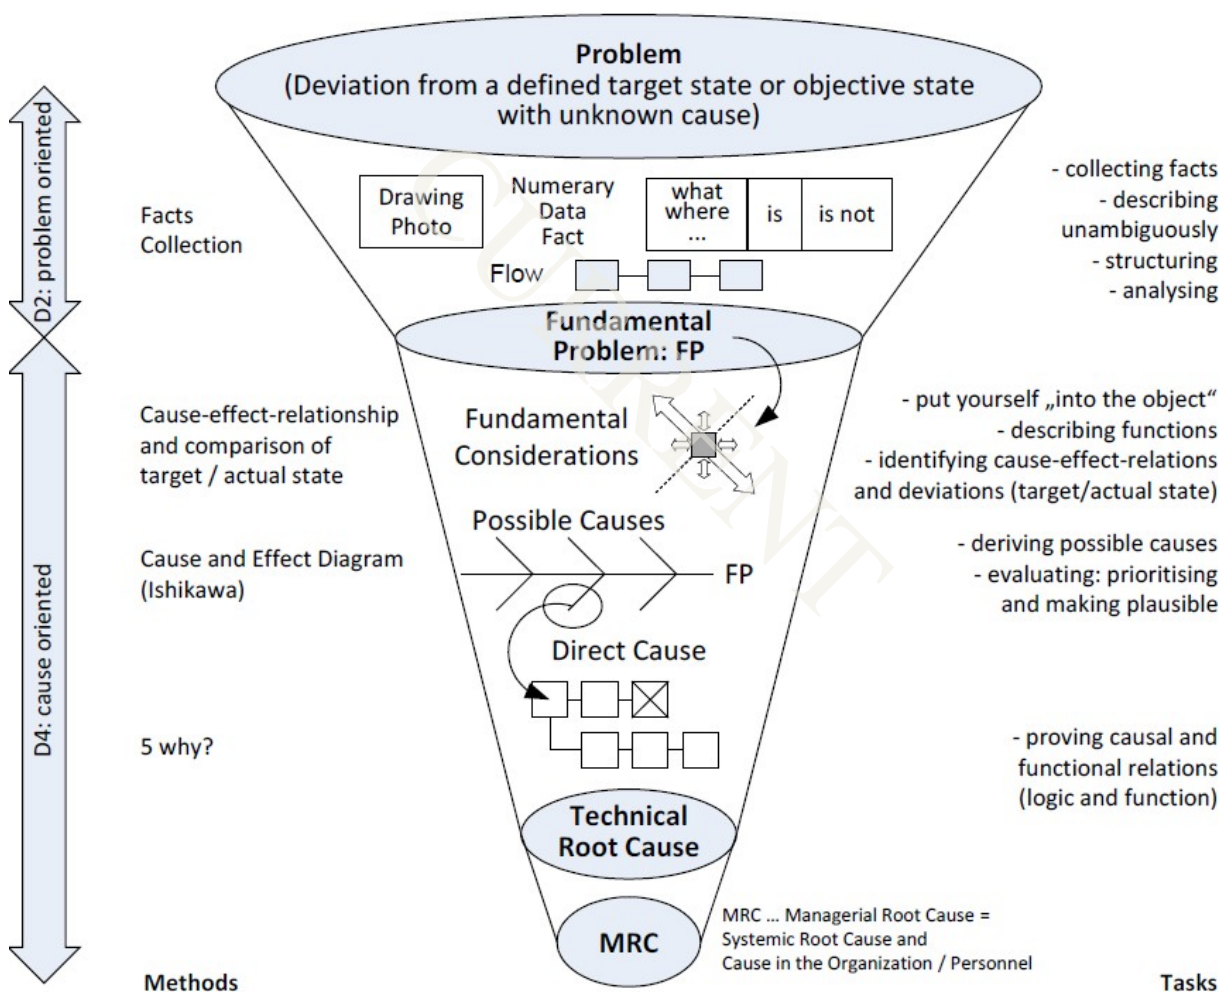

Figure 3.2: Keenfinity problem-solving funnel
- The **procedure for problem-solving** forms the core of the methodology. The steps correspond to the procedure used in the 8D method (see Appendix 1). They are adapted to the different problem areas (product problems, process problems, problems in the indirect area) and the contents detailed with regard to some subtasks. The basic procedure (see figure 3.2 problem-solving funnel) can be applied, however, regardless of complexity and the problem area.
As explained in section 2 "principles for problem-solving", the problem description (D2) and the cause-effect analysis (D4) comprise the decisive steps in the procedure. These are summarized and represented in the **Keenfinity problem-solving funnel (figure 3.2)**. The main tasks are explained below. The associated basic **methods** are described in **section 4**. **Section 5** describes in detail the specifications of the procedure in different **problem areas**. The focus is on the description of the procedure for **product problems** – presented in the form of guidelines (section 5.3).
The fundamental problem-solving methods are listed in the problem-solving funnel (figure 3.2) allocated to the corresponding tasks. These methods help in the systematic procedure and structure the basic issues and results.
are documented in tabular form under the so called "Is"-column. The problem is thus **described clearly and in a structured manner** based on **facts** (no suspicions or opinions) (see tasks in the problem-solving funnel, figure 3.2).